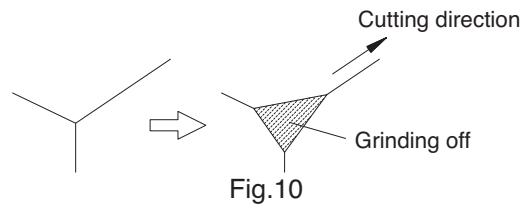

Fig.10
- **If the initial cut is such an edge as in Fig.10, before chamfering, grind the edge off. Initially cutting an edge will give a heavy shock to the Indexable Inserts, malfunction of the tool, or injury to the operator.**